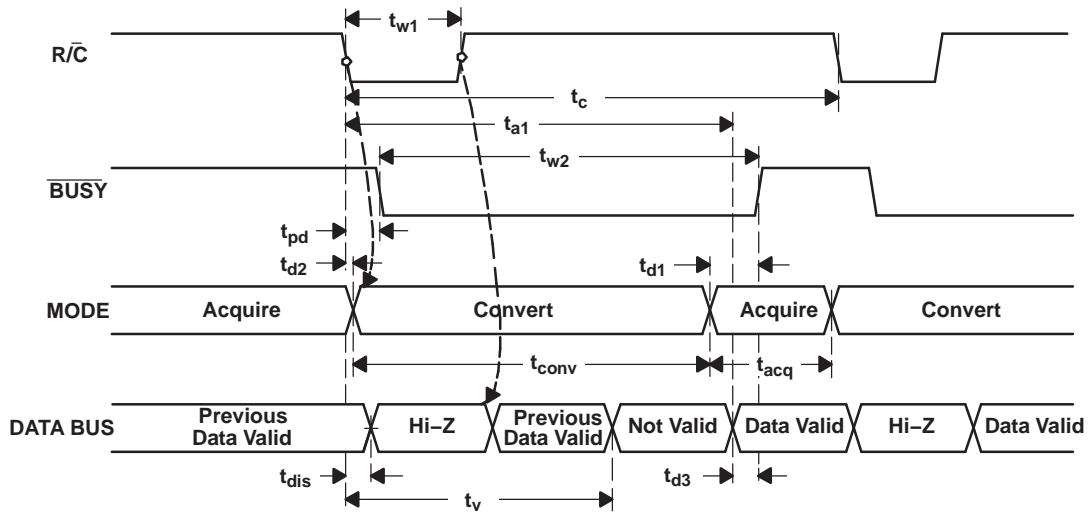
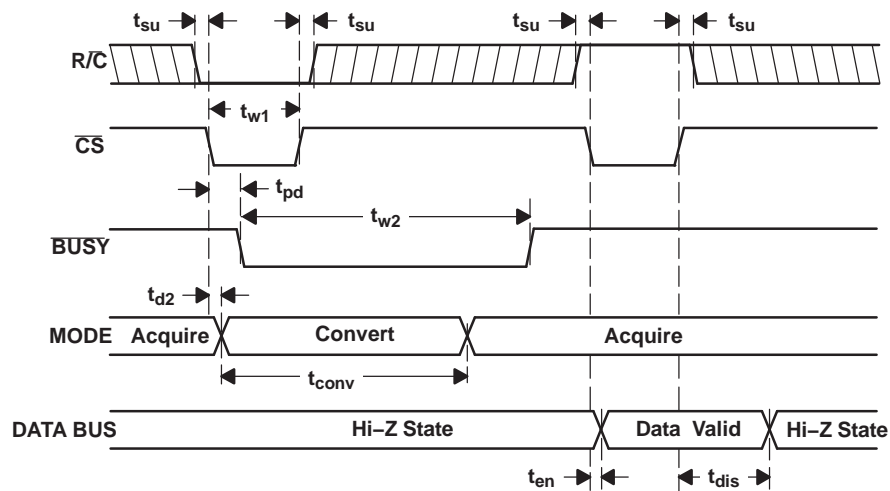
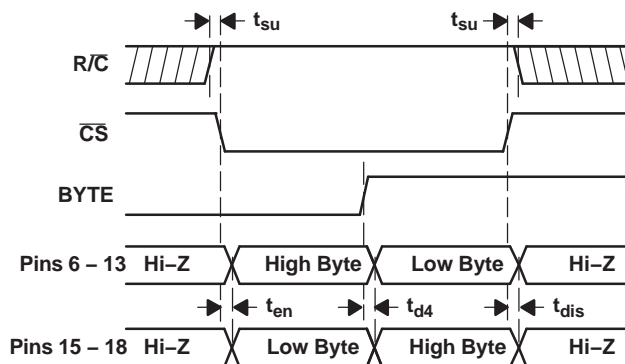

Figure 19. Conversion Timing with Outputs Enabled after Conversion ( $\overline{CS}$  Tied Low)
Figure 20. Using  $\overline{CS}$  to Control Conversion and Read Timing
Figure 21. Using  $\overline{CS}$  and  $\overline{BYTE}$  to Control Data Bus
The ADS8504 begins tracking the input signal at the end of the conversion. Allowing 4  $\mu$ s between convert commands assures accurate acquisition of a new signal. Refer to Table 1 for a summary of  $\overline{CS}$ ,  $\overline{R/C}$ , and  $\overline{BUSY}$  states and Figure 19, Figure 20, and Figure 21 for the timing diagrams.
(1) See Figure 19 and Figure 20 for constraints on data valid from conversion  $n-1$ .
After conversion *n* is completed and the output registers have been updated,  $\overline{\text{BUSY}}$  (pin 26) goes high. Valid data from conversion *n* is available on D11-D0 (pins 6-13 and 15-18).  $\overline{\text{BUSY}}$  going high can be used to latch the data. Refer to Table 3 and Figure 19, Figure 20, and Figure 21 for timing specifications.
After conversion *n* has been initiated, valid data from conversion *n-1* can be read and is valid up to  $t_2$  (2.2  $\mu\text{s}$  typ) after the start of conversion *n*. Do not attempt to read data from  $t_2$  (2.2  $\mu\text{s}$  typ) after the start of conversion *n* until  $\overline{\text{BUSY}}$  (pin 26) goes high; this may result in reading invalid data. Refer to Table 3 and Figure 19, Figure 20, and Figure 21 for timing specifications.
The number of control lines can be reduced by tying  $\overline{\text{CS}}$  low while using the falling edge of  $\text{R}/\overline{\text{C}}$  to initiate conversions and the rising edge of  $\text{R}/\overline{\text{C}}$  to activate the output mode of the converter. See Figure 19.